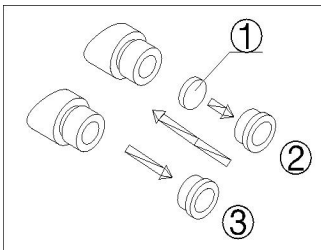

Fig.5
- 1) Turn and remove the mounting ring② from the eyepiece.(Fig.5)
- 2) Clean the eyepiece micrometer① and mount it to the mounting ring with the inscription side downward.
- 3) Gently twist the mounting ring with the eyepiece micrometer into the eyepiece till tightening② securely.
- 4) To remove the eyepiece micrometer, take down the mounting ring③ by twisting and take out of the micrometer, and then wrap it.